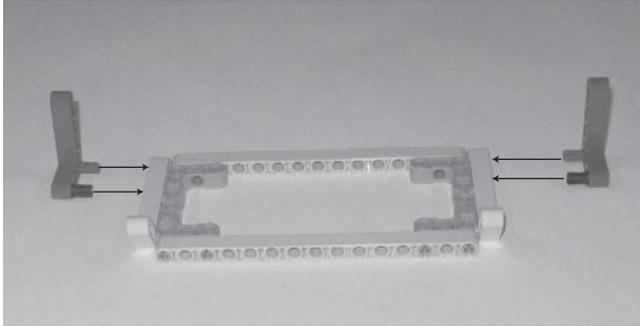

Figure 9.16
Step 2—Connect two $3 \times 5M$ perpendicular beams to the upper left and right ends of the chassis using a connector peg with friction and connector peg with friction and cross axle, as shown in Figure 9.16.